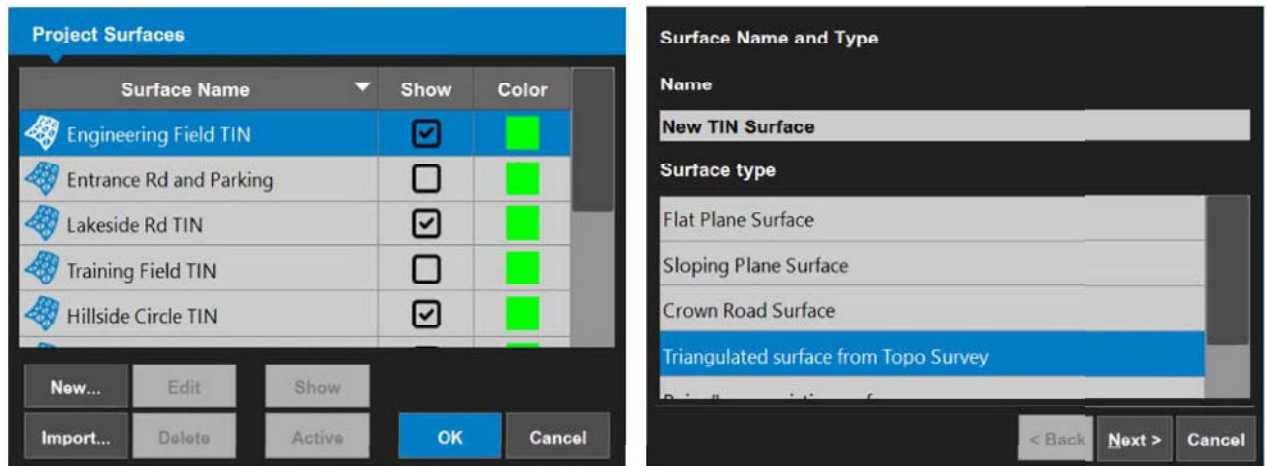

Figure 2-44: Surfaces Screen—New TIN Surface
3. From the **Surface Name and Type** screen, enter a name, and select **Triangulated surface from topo survey** (Figure 2-44).